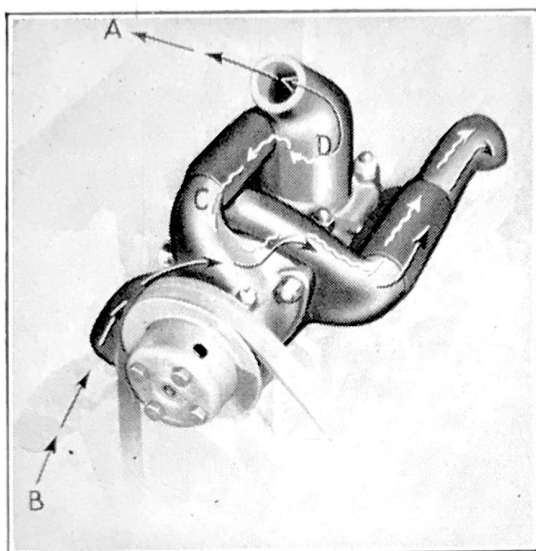

Figure 26
Models 15 and 17, which use a by-pass type water pump, are equipped with a by-pass type thermostat, located in outlet (D), Fig. 26. This type thermostat, although restricting water